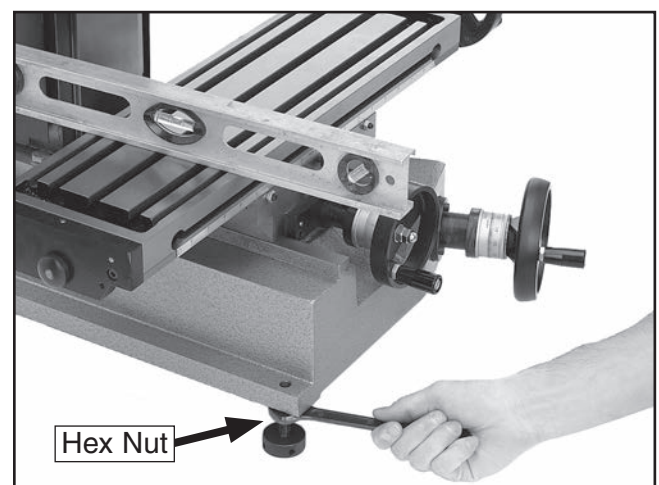

Figure 8. Leveling the mill/drill.
2. Loosen the hex nut(s), as shown in **Figure 8**, and turn the feet until the mill/drill is level side-to-side and front-to-back.